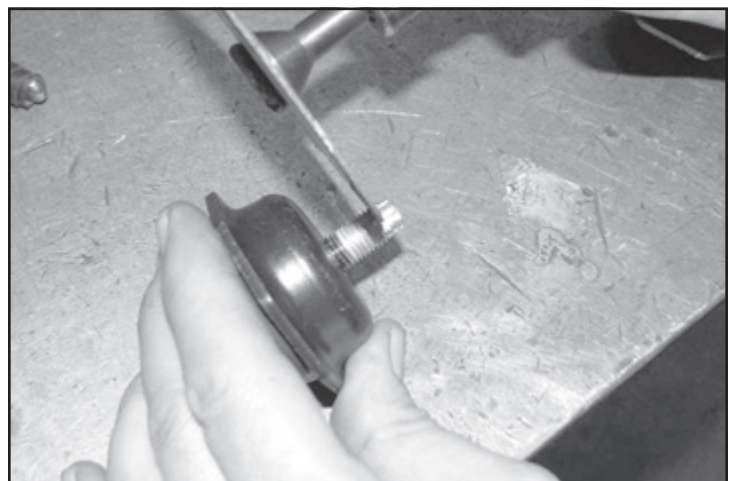

**FIGURE 20**
13. Locate the four factory compression bump stops and remove and save. **SEE FIGURE 20**